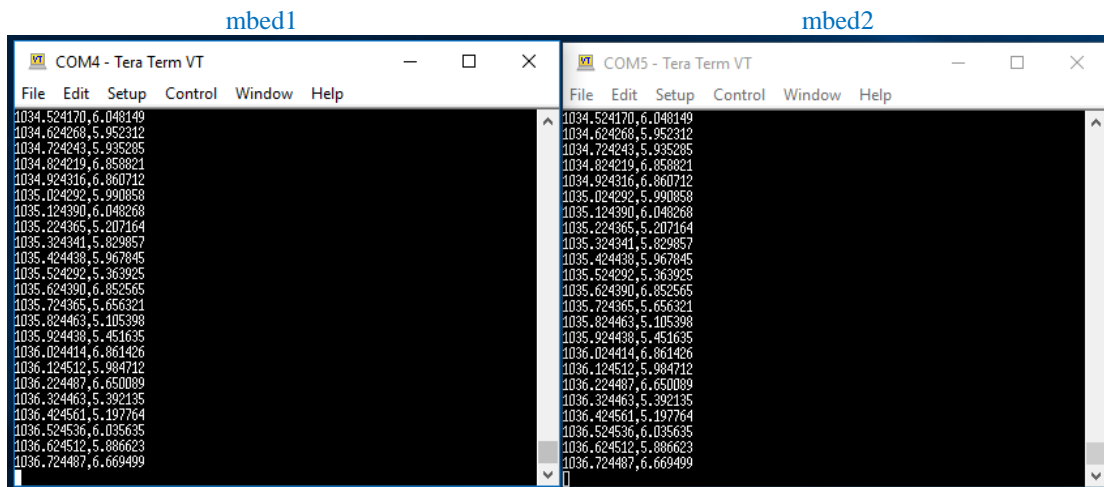

Figure 4: Example of simultaneous screen shot, Part B deliverable.
- 11) Capture a simultaneous screen shot of both Tera Term windows (mbed1/mbed2) as shown in Figure 4 for the lab report.
NOTE: You may need to perform error checking to ensure that the data is not corrupted prior to using the received data for plotting or calculations. When logging data, the first and/or last entries commonly only partially record the data and must be removed from the data set. A simple error checking routine for this data would verify that time is increasing with each successive data point. Consider other possibilities by reviewing the mbed1 Tera Term window as shown in Figure 4.